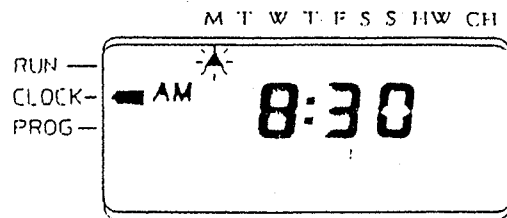

Fig. 4.
- (a) Press the SET button so that the INDICATOR points to the CLOCK position. The DAY INDICATOR will now flash (Fig. 4).